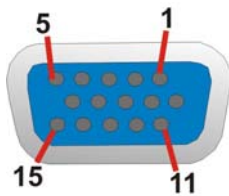

Figure 3-24: VGA Connector
- CN Pinouts:** See **Figure 3-24** and **Table 3-26**